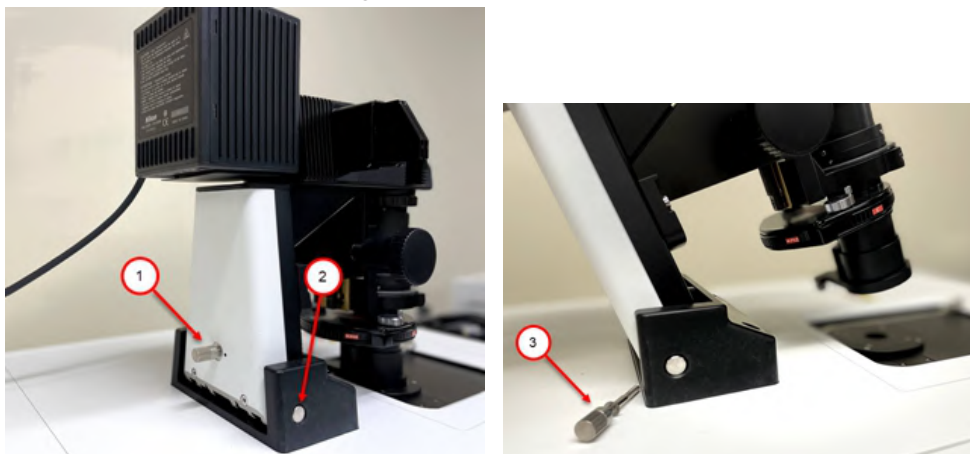

Figure 7-26: Hinge Release Knob and Hinge
18. If your instrument includes the Transmitted Light option, move the Transmitted Light tower back into position and replace the hinge release knob. See Figure 7-26.